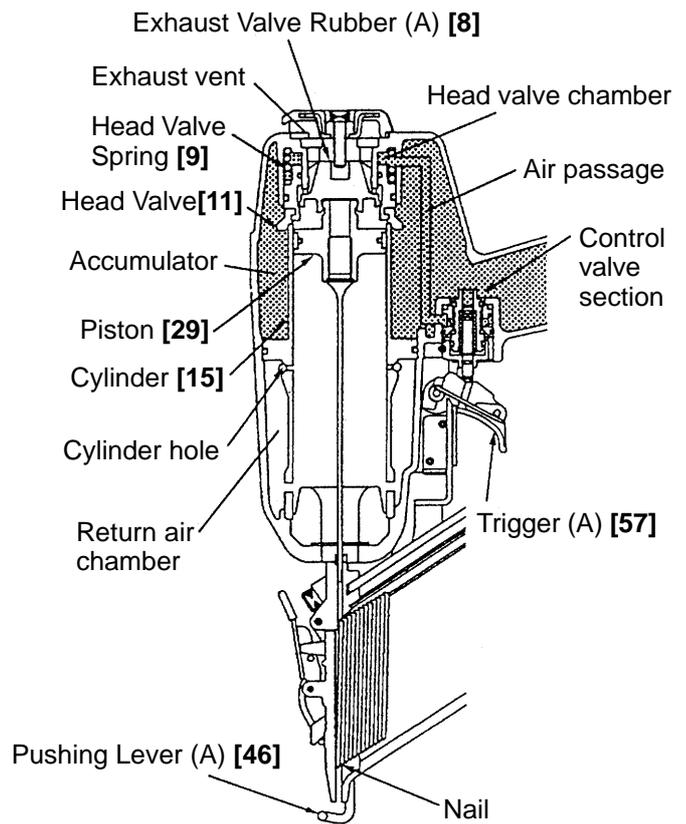
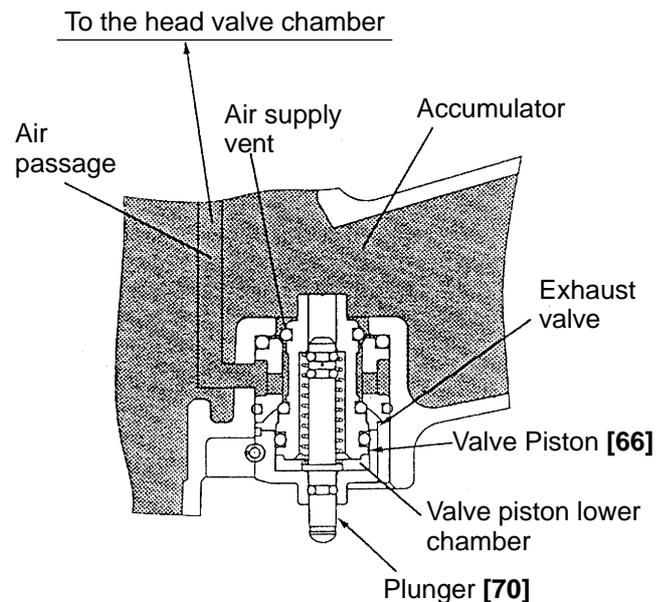

Fig. 5
Fig. 6 Control valve section
(1) Before nailing: (Fig. 5, Fig. 6)
(2) When nailing: (Fig. 5, Fig. 6)